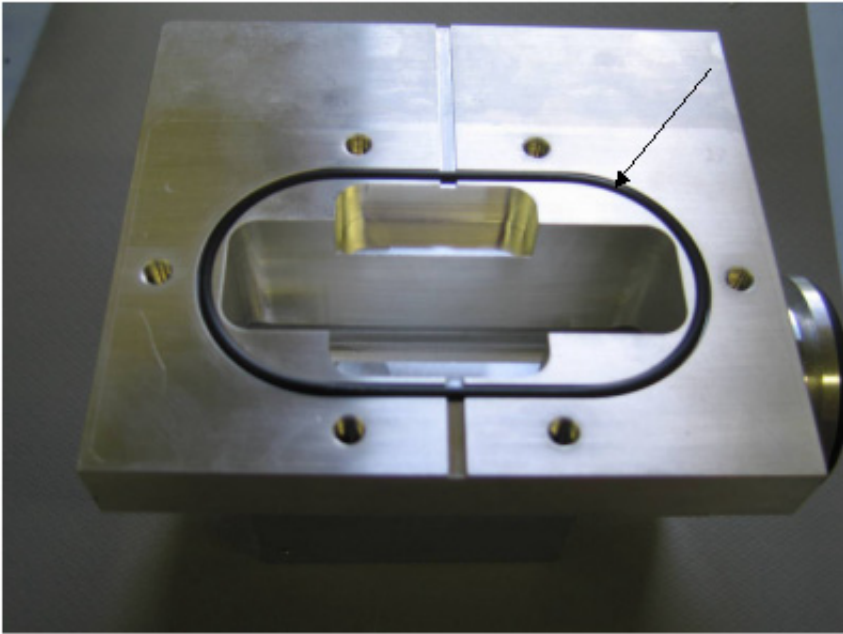

Figure 8: O-ring
9. Remove the O-ring, inspect and replace if damaged (Figure 8: O-ring).